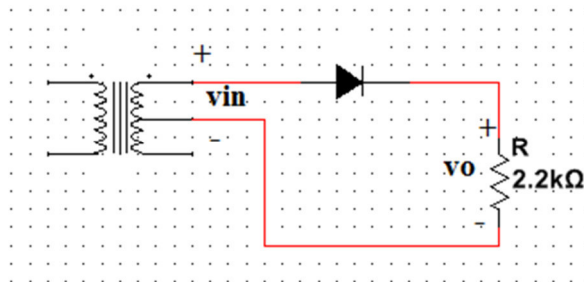

Figure 1.6: Single Phase Halfwave Uncontrolled Rectifier Circuit
- Implement the **single phase halfwave uncontrolled rectifier** circuit on breadboard as shown in the Figure 1.6.